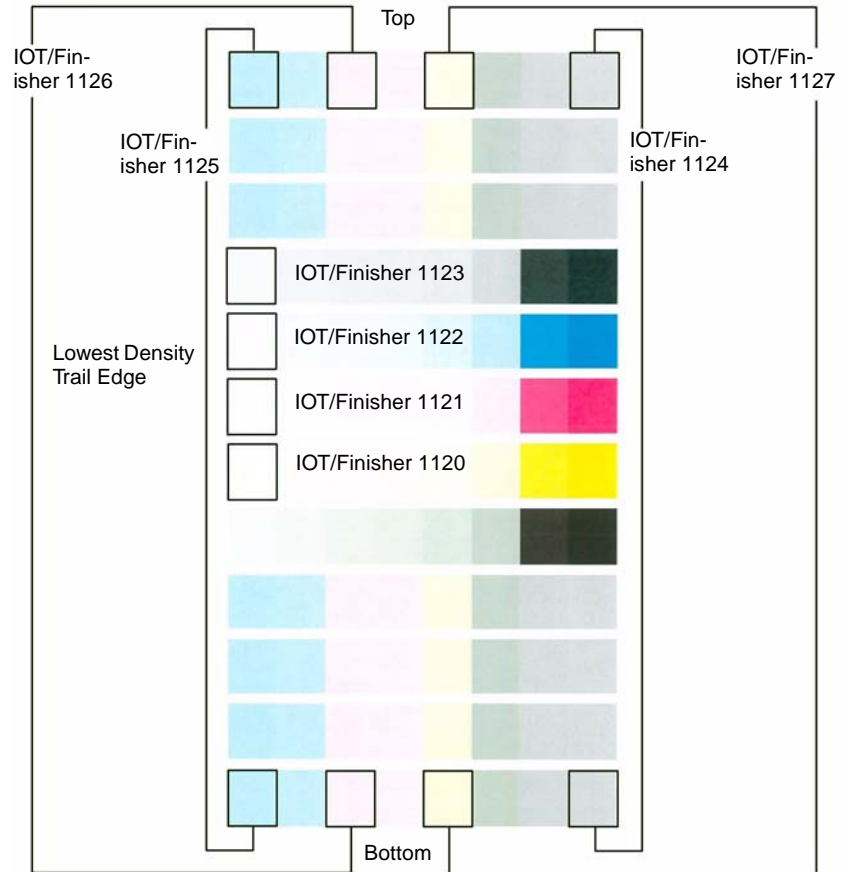

Figure 1 Checking Adjustment
5. Press **Start**. Check **Top to Bottom** Density on print (Figure 1).